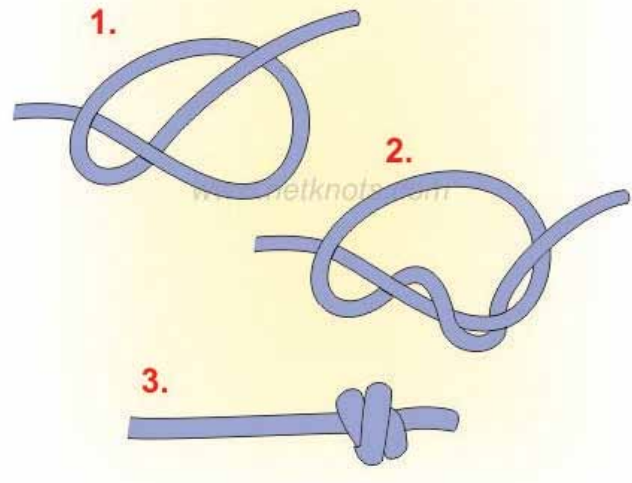

Figure 1
6. Tie a double overhand knot (Fig.1) into one end of the spectra filament.
14. Tie a double overhand knot (**Fig.1**) into the end of the spectra filament.